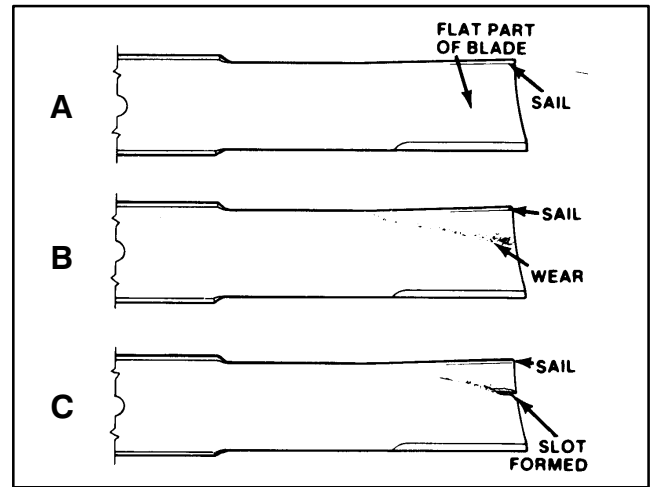

Figure 28
2. Examine cutting ends of the blade carefully, especially where the flat and curved parts of the blade meet (Fig. 28-A). Since sand and abrasive material can wear away the metal that connects the flat and curved parts of the blade, check the blade before using the mower. If wear is noticed (Fig. 28-B), replace the blade.
If blade is allowed to wear, a slot will form between the sail and flat part of the blade (Fig. 28-C). Eventually a piece of the blade may break off and be thrown from under the housing, possibly resulting in serious injury to yourself or bystanders.